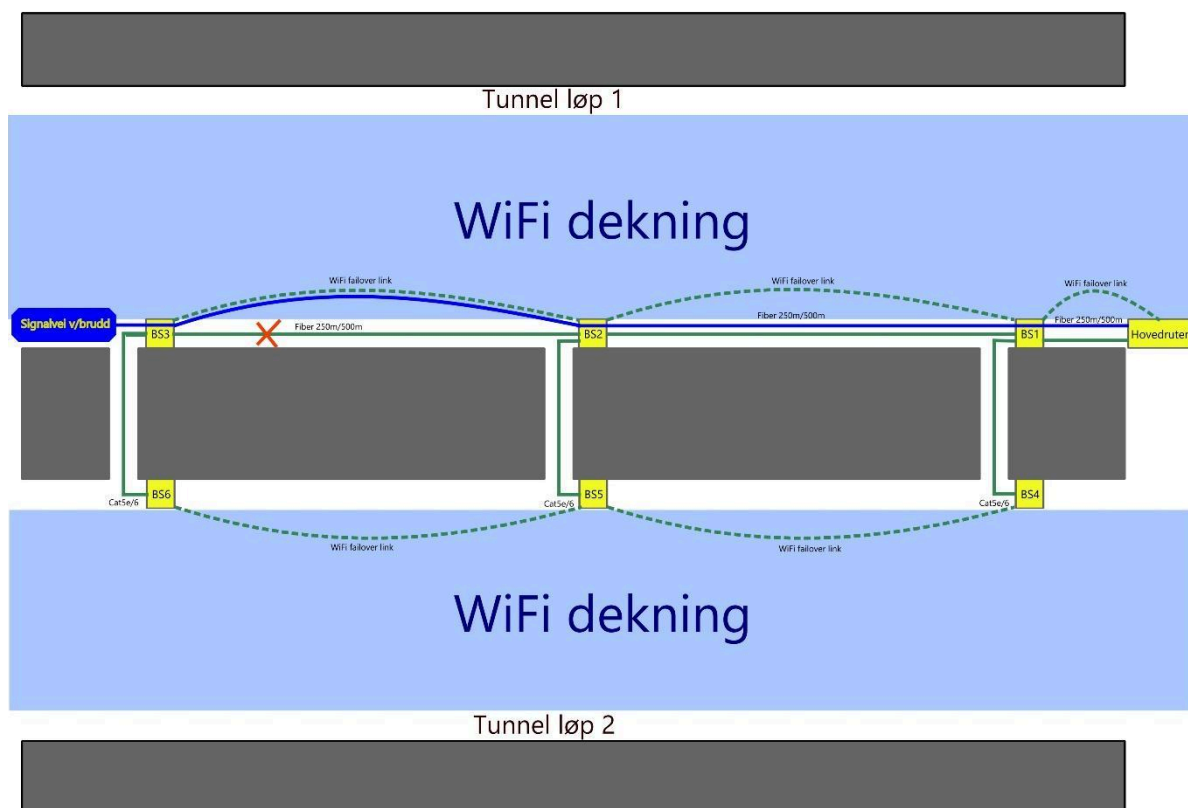

Figure 1: Signal path in the event of a fiber break
- Up to two simultaneous cable or WiFi link failures in the same area shall not result in loss of network connectivity. (Figures 1–4)